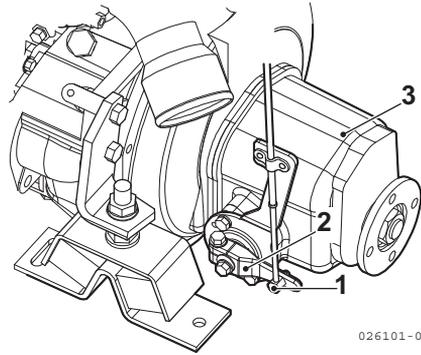

Figure 8
1. Ensure that the remote control lever (Figure 8, (2)) or (Figure 9, (2)) moves to the correct position when the remote control handle is in the NEUTRAL, FORWARD and REVERSE positions. Use the NEUTRAL position as the standard for adjustment.
2. To adjust, loosen and retighten the cable fitting (Figure 8, (1)) or (Figure 9, (1)).